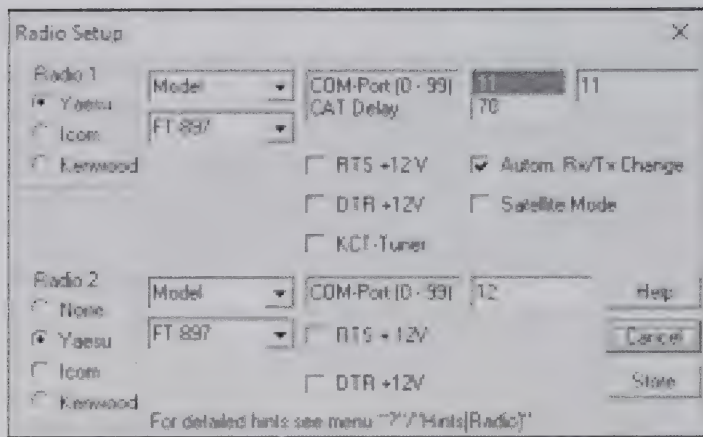
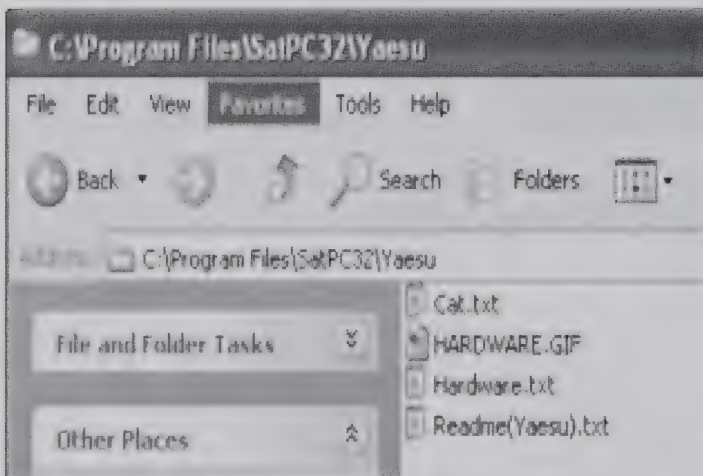

Figure 6a.
Figure 7.
F) Configure Radio CAT control: From Menu Bar, select "Setup>>Radio Setup." As illustrated in Figure 6a-b, configure Model and Baudrate as appropriate for the radios you use. Click the [Store] button. See the official documentation for additional information. Subdirectories exist for Icom, Kenwood, and Yaesu under the SatPC32 program file folder. Check the contents of those directories for additional information about those radios. (See the example of Yaesu Folders with additional information in Figure 7.)